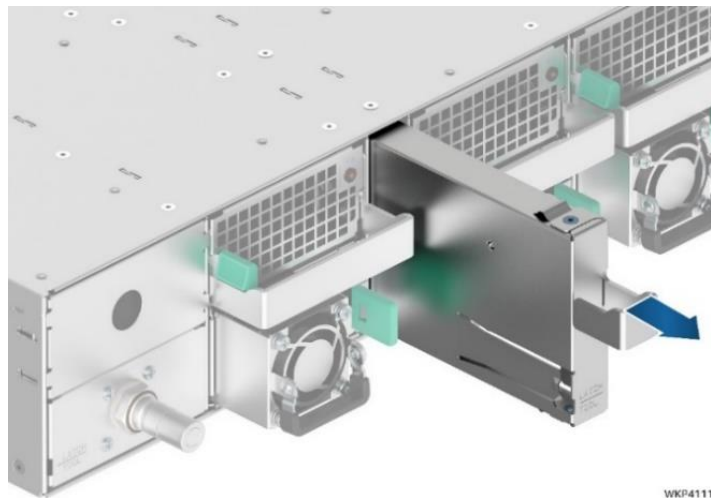

Figure 103. Removing the EMP Blank
1. If present, remove the EMP blank from the back of the server chassis by pulling it out from the chassis as shown in Figure 103.